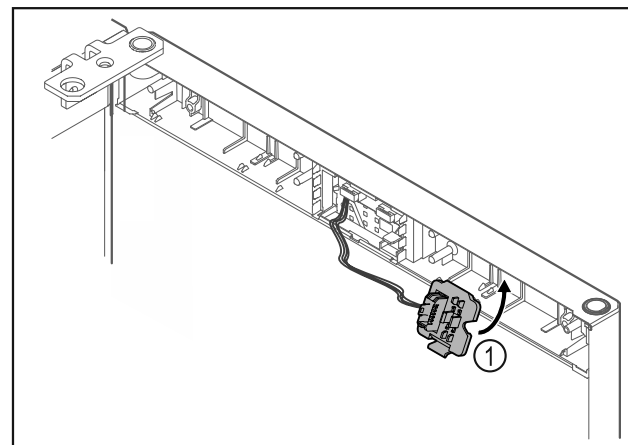

Fig. 12
- Engage the plug holder Fig. 12 (1) on the opposite side.\*